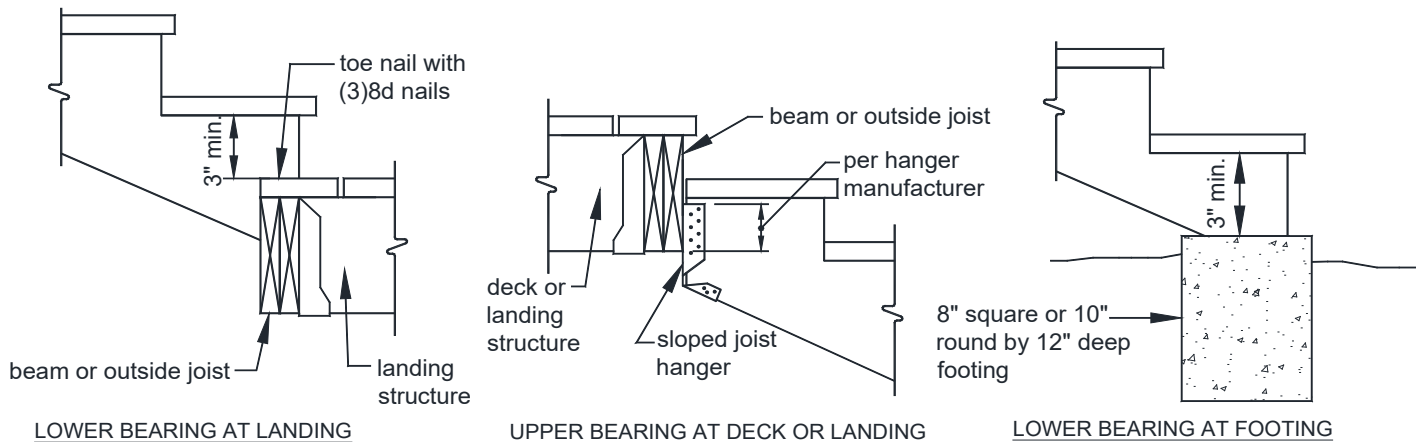

FIGURE 40: STRINGER BEARING
- Each Stringer shall bear on footings and attach to the deck or landing per FIGURE 40.